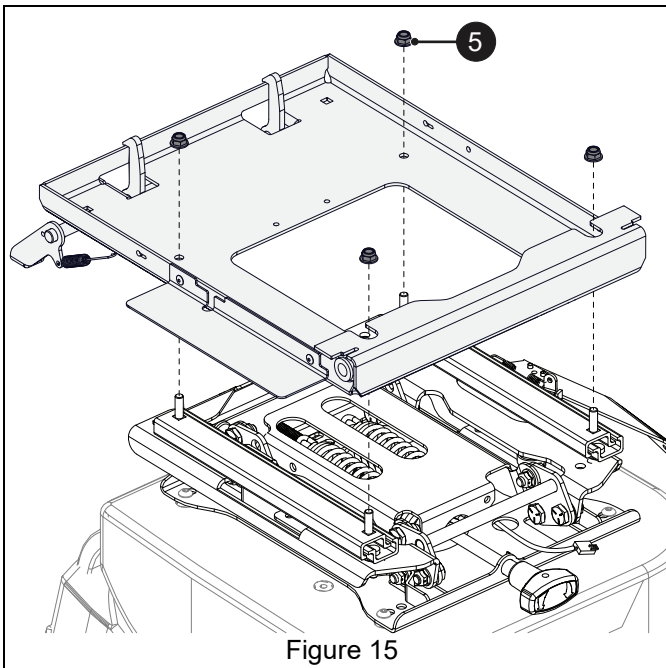

Figure 15
11. Position seat plate assembly onto suspension assembly and retain with four 5/16" nylon flange nuts (item 5). See Figure 15.